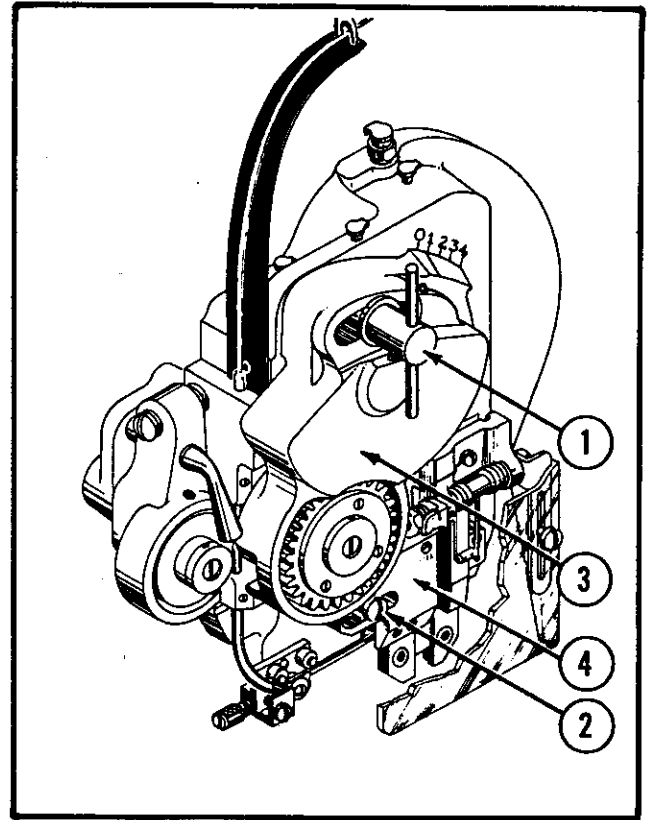

Figure 9—Wire Draw Adjustments
2—If it is found necessary to relocate the wire feed guard lock screw, (1) Fig. 9, and cutter block holding screw (2), remove both screws, and then shift the wire feed guard casting, (3)
3—The short and standard wire draw heads are so designed that the cutter block, (4) Fig. 9, automatically shifts to the left or right when the wire feed guard is shifted. If head being operated is either of these two types, relocate the cutter block holding screw (2) in its alternate hole (D or E, Fig. 7), and tighten screw securely. If head is of the Metal Stitcher type (Model BHM or BHMB), relocate the cutter block holding screw (2) with washer, in its alternate hole (D or E, Fig. 7), but do not tighten. If head being operated is either the long or extra long draw type (Model BHL, BHX, BHOL or BHL485), the cutter block must be shifted manually. Move cutter block, as required, and relocate holding screw and washer (hex head screw and washer used on long and extra long draw heads only); do not tighten screw at this point.
4—If it is not found necessary to relocate the wire feed guard lock screw, (1) Fig. 9, and cutter block holding screw (2), and head being operated is either the short or standard wire draw type, loosen (do not remove) only the wire feed guard lock screw (1); if head is either the metal stitcher type or long or extra long draw type, loosen (do not remove) both screws.
5—To increase or decrease the wire draw on the short and standard wire draw heads, shift the wire feed guard casting, (3) Fig. 9, to the right or left. As mentioned in step (3) above, any shifting of the wire feed guard automatically adjusts the position of the cutter block so that both legs of the staple are increased or decreased an equal amount.
After the setting has been made, tighten the wire feed guard lock screw, (1) Fig. 9. If head is of the metal stitcher type (Model BHM or BHMB), also tighten the cutter block holding screw, (2) Fig. 9.
After setting the wire feed guard and cutter block, tighten the wire feed guard lock screw and cutter block holding screw, (1) and (2) Fig. 9.